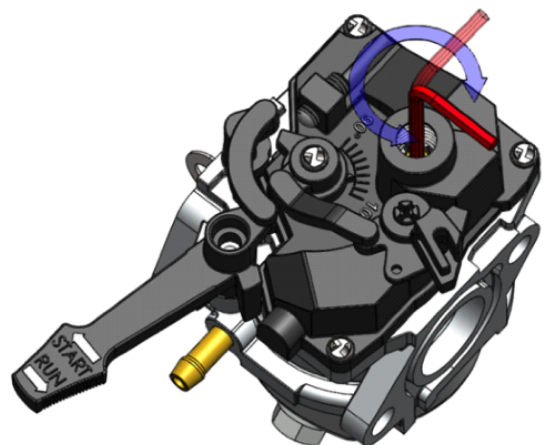

Figure 1.4
3. Turn the AFR screw in 1/8 turn increments, counterclockwise to make the fuel mixture richer or clockwise to make the fuel mixture leaner (Figure 1.4). If the engine continues to run rich or lean after the initial adjustment, a further adjustment in 1/8 turn increments may be necessary.